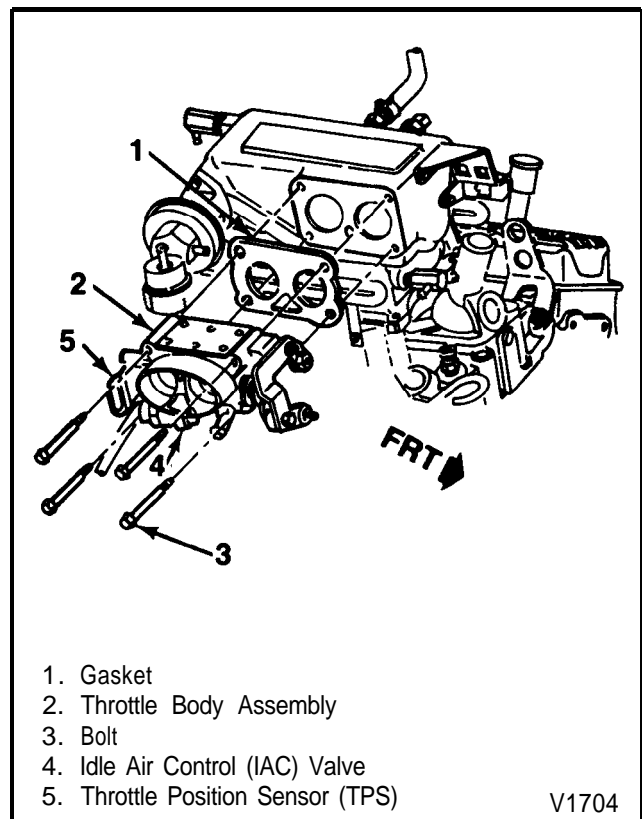

Figure 11 - Throttle Body Removal
### Remove or Disconnect (Figure 11)
**Install or Connect (Figure 11)**
1. Throttle body assembly (2) with new flange gasket (1).
2. Throttle body attaching bolts (3).
- Throttle body attaching bolts (3) to 24 N•m (18 ft. lbs.).
5. Electrical connectors to TPS (5) and IAC valve (4).